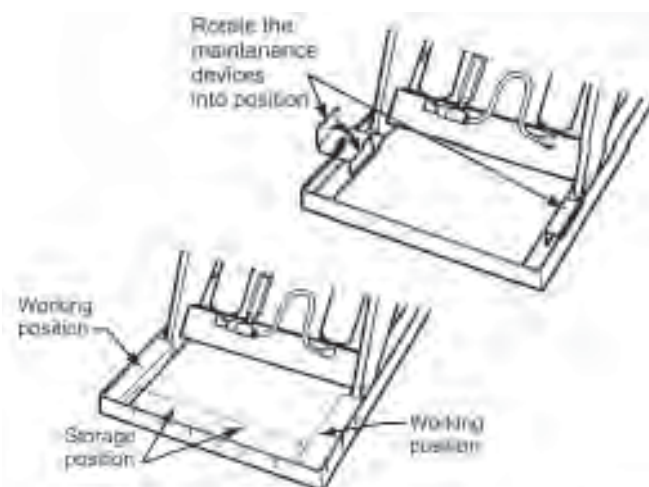

Figure 1 - Safe Servicing of Lift
3. Remove the maintenance device(s) from its/their storage location and place it/them into the engaged position as shown in Figure 1. (Note: further information may be useful here to provide additional instructions as to the location and method of storage and engaged positions).